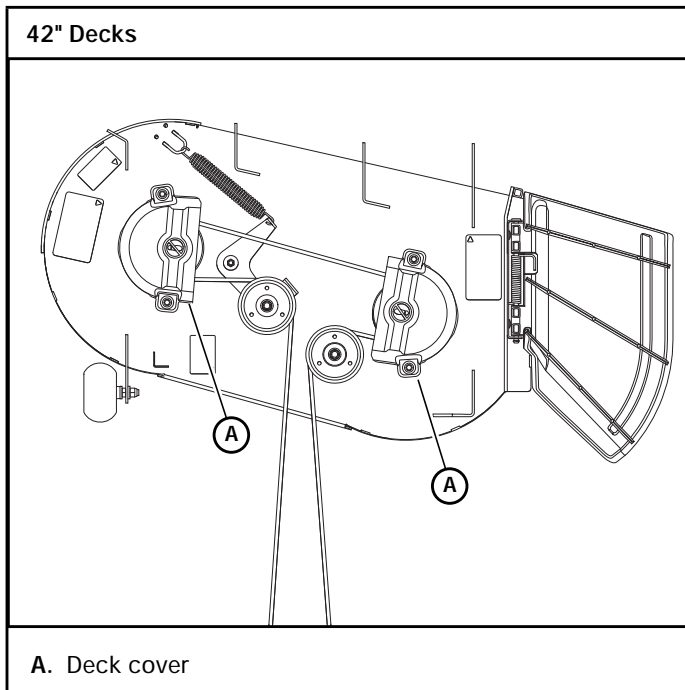
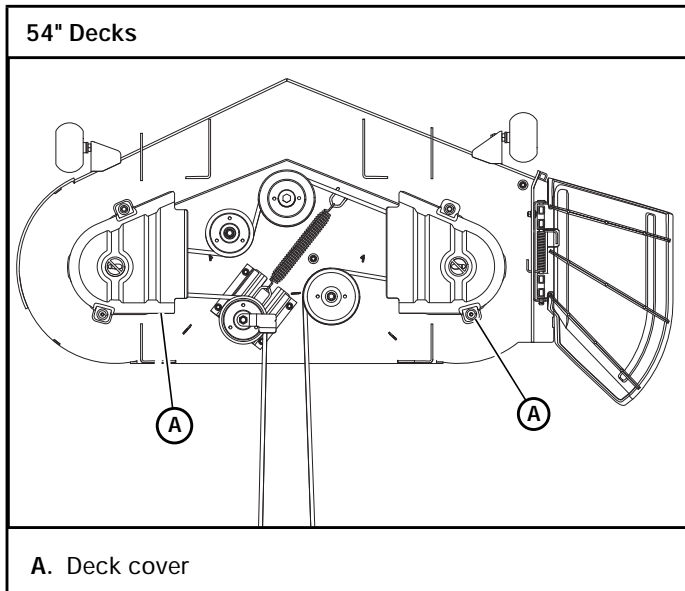

Figure 4-9
Figure 4-10
3. Remove the deck covers. Figure 4-9 & Figure 4-10
- Re-install the deck covers. Figure 4-9 & Figure 4-10